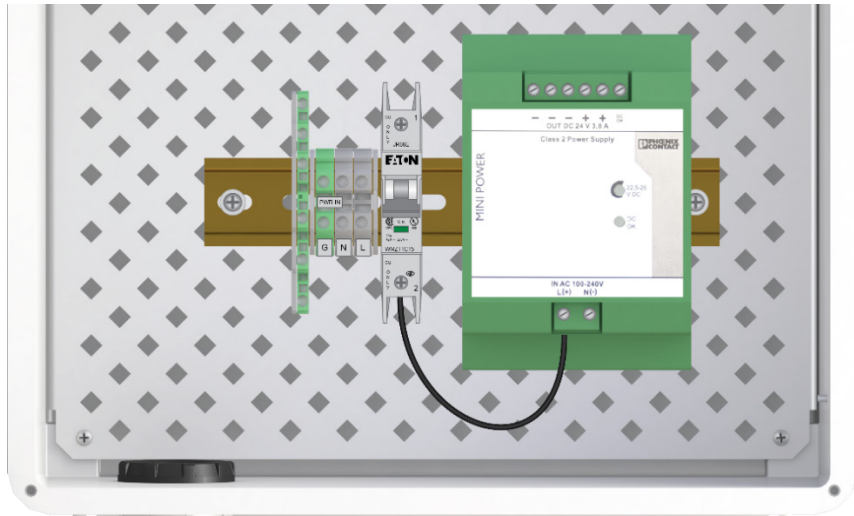

FIGURE 5-3. Connecting the L(+) terminal to the circuit breaker
2. Connect a black 14 AWG wire between the bottom of the breaker and the L(+) terminal on the power supply (FIGURE 5-3).